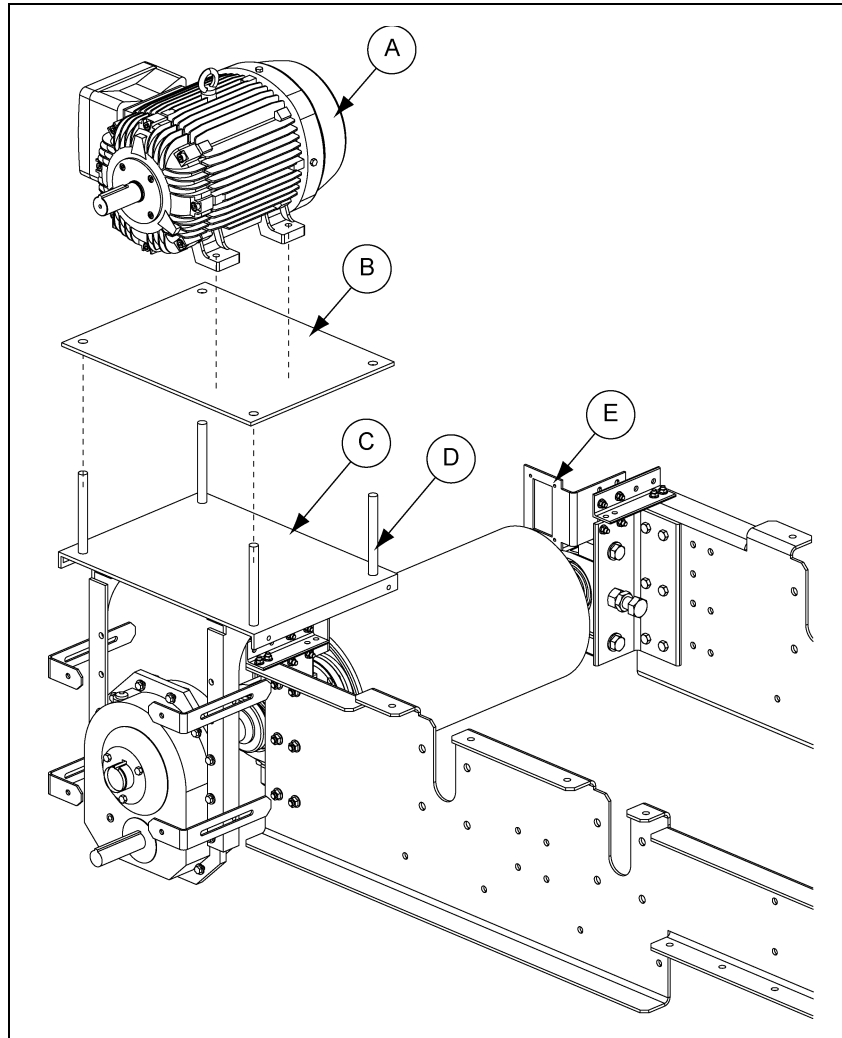

Figure 4M
1. Thread nuts onto jack screws. Place bolt through motor mount bracket and base plate (C). Thread another nut onto jack screws (D) to secure. Repeat for three remaining jack screws (D).
2. Thread another nut onto all four jack screws (D). Place adjustment plate onto jack screws (D). Thread another nut onto each jack screw (D) to secure adjustment plate. Use these nuts to adjust the motor height.
3. Attach the motor (A) to the adjustment plate (B) using bolts and lock nuts. (See Figure 4M.)